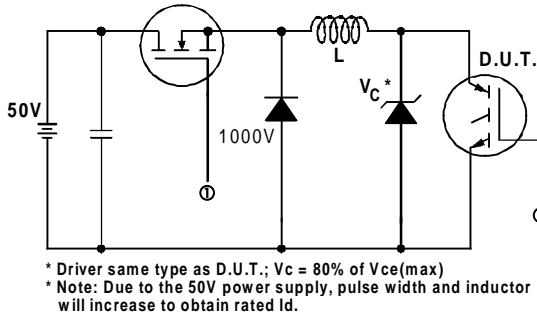

Fig. 13a - Clamped Inductive Load Test Circuit
- ② $V_{CC} = 80\%(V_{CES})$, $V_{GE} = 20V$, $L = 10\mu H$, $R_G = 5.0\Omega$, (See fig. 13a)
- ③ Repetitive rating; pulse width limited by maximum junction temperature.
- ④ Pulse width $\leq 80\mu s$; duty factor $\leq 0.1\%$.
- ⑤ Pulse width $5.0\mu s$, single shot.
- ⑥ Current limited by the package, (Die current = 100A)